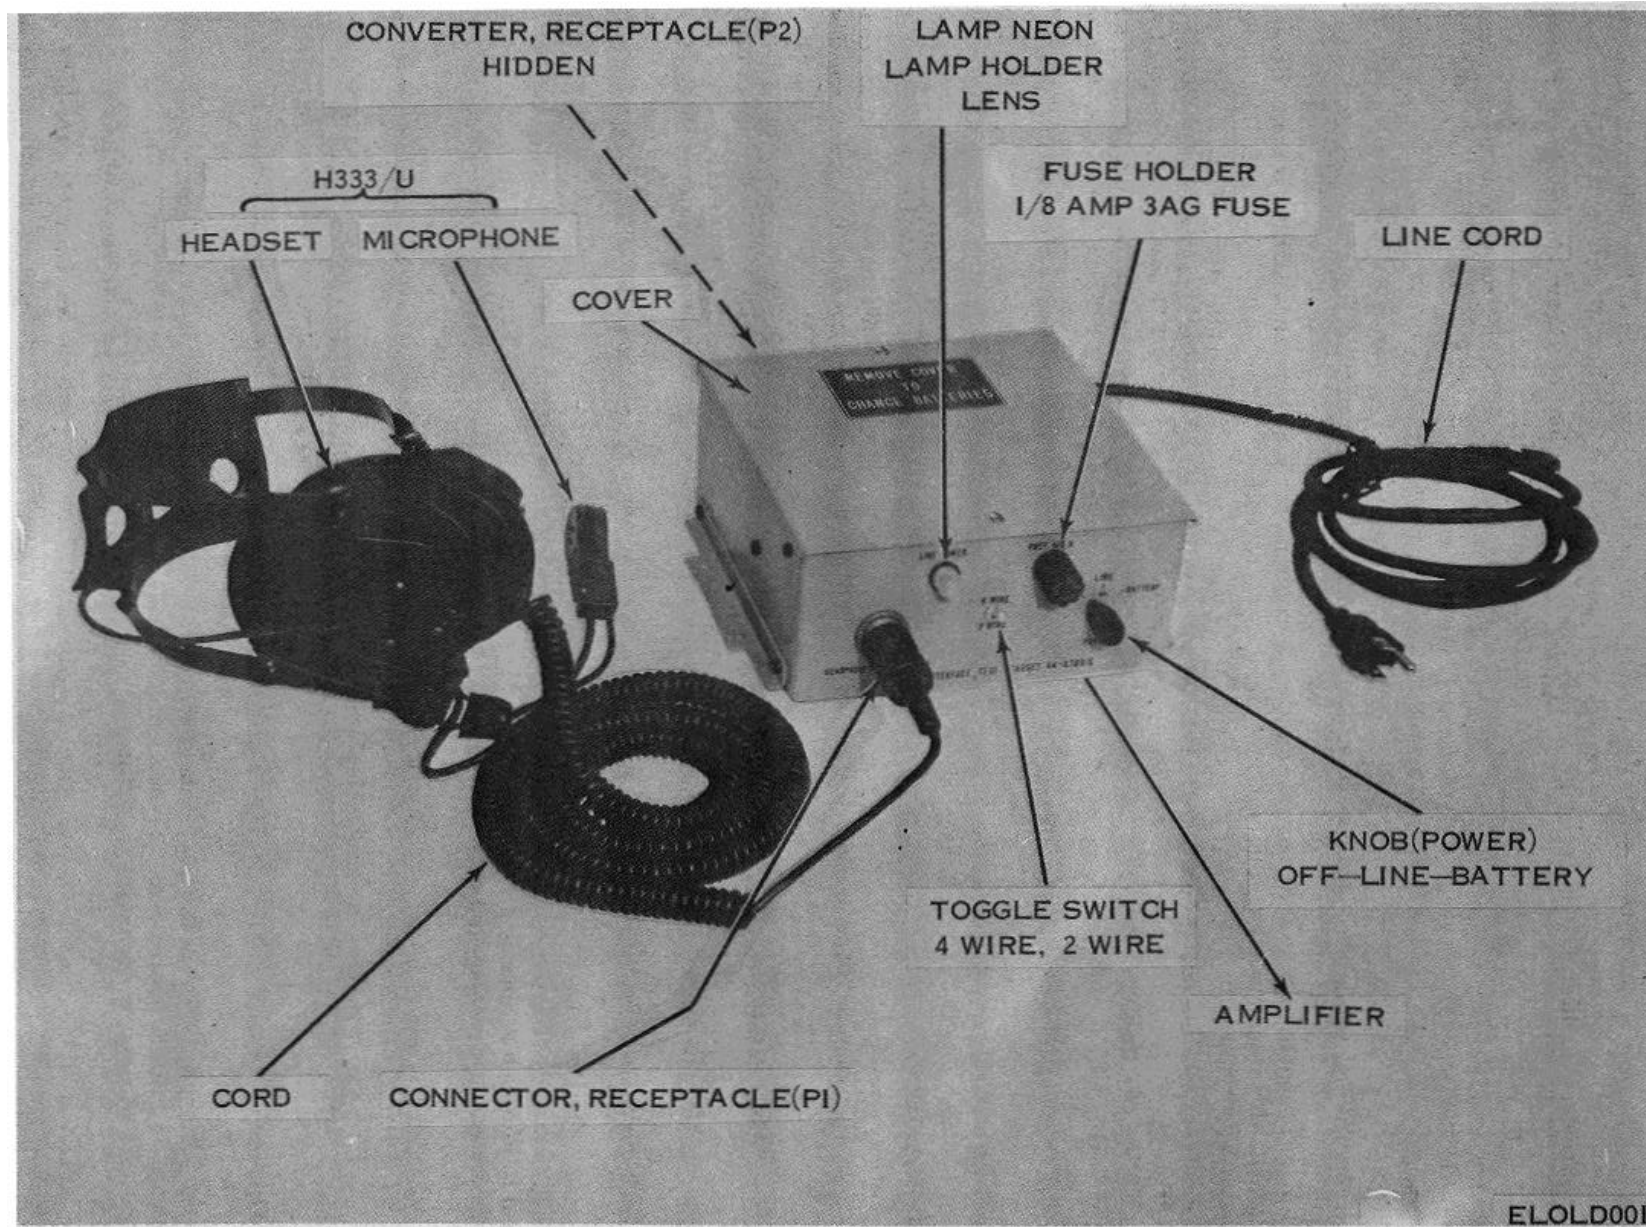

Figure 1-1. Amplifier-Interface, Test Headset AM-6789/G, Including Headset and Microphone.
a. This manual describes Amplifier-Interface, Test Headset AM-6789/G (fig. 1-1) and covers its installation, operation, and maintenance. Throughout this manual other publications are referenced where appropriate.
(fig. 1-1 and B-1)
Remove the top cover of Amplifier-Interface Testset AM-6789/G (fig. 1-1). At the rear of the unit there are two battery clamps. Insert the two batteries (9 volt, BA-3090) into the clamps, making sure that their polarized terminal face the polarized clips. Press the clips on the batteries. Replace the cover.
a. Front panel (fig. 1-1).